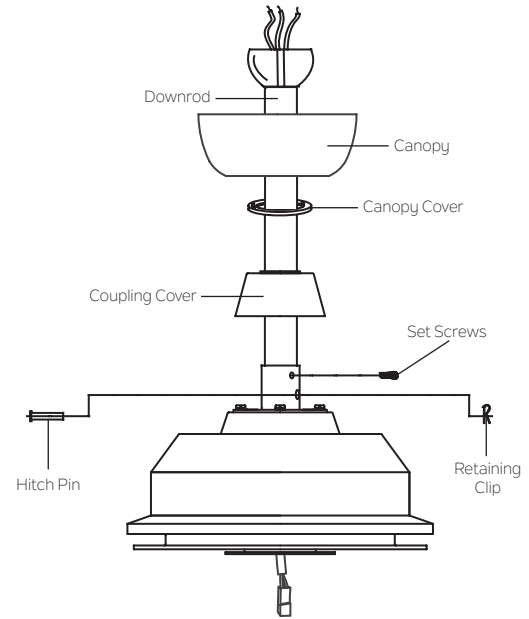

Fig. 9
**Step 8.** Slip the coupling cover, secure ring , canopy cover and canopy onto the downrod. (Fig. 9)
Thread the hanger ball onto the downrod, insert the cross pin through the downrod and tighten. Now tighten the set screw. (Fig. 9)